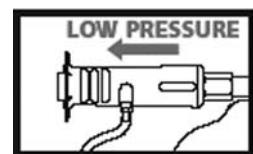

Figure 8
2. Push out on black nozzle to ensure lance is in low pressure mode (Figure 8).